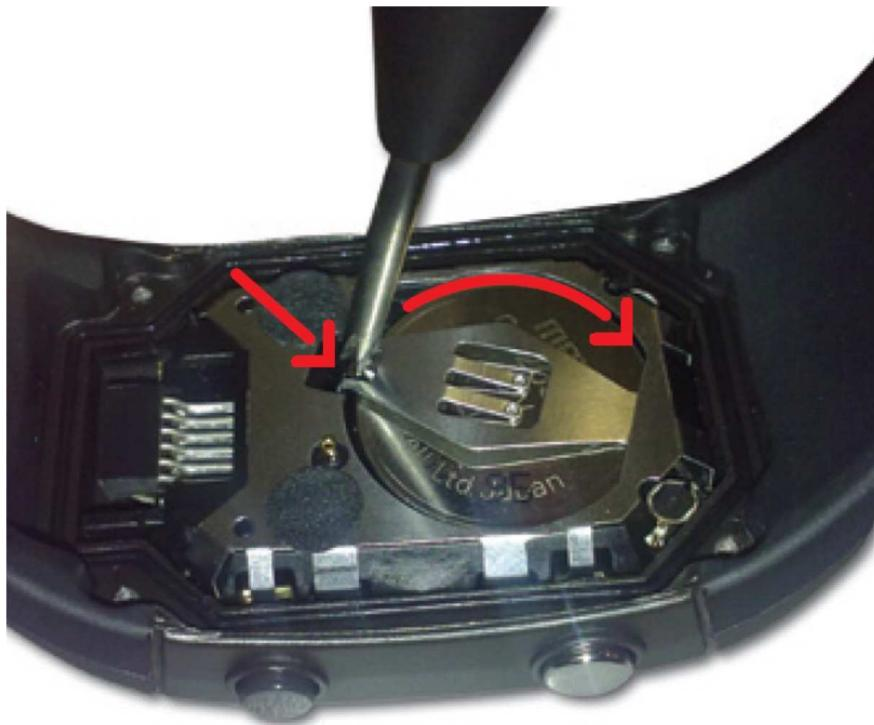

Figure 4-2. Removing Watch Battery
4. Remove battery before connecting the module to the emulator. Use the screwdriver to release the clip at the side of the battery holder (see Figure 4-2).